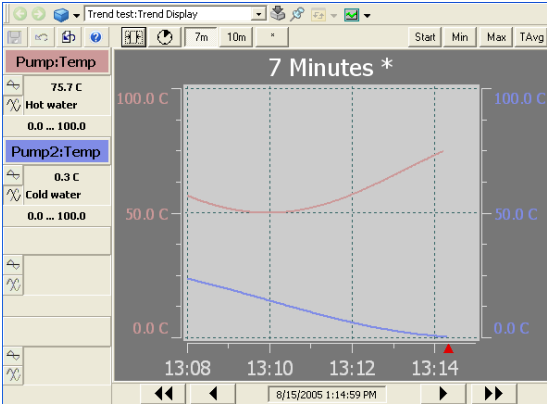

Figure 102. Trend Display Left View
- There is also a layout where the Trend Table and Trend Tool Bar are replaced with an Item Area to the left, a Top Tool Bar and a Bottom Tools Bar, this is the Left View (Figure 102).
The third and fourth layouts are divided into four areas: the Trend Area, the Top Tool Bar, the Bottom Tool Bar and the Item Area, see Figure 102.